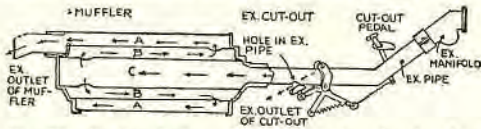

Fig. 69. Sectional view of a muffler also showing how a "cut-out" is placed on the exhaust pipe.
Construction: The muffler is usually made of iron pipe, like a stove pipe, with cast-iron heads, as in Fig. 69. The exhaust gases (when the exhaust valves are opened) pass through the exhaust pipe into the chamber (C), as shown by the arrow marks; then through openings in rear of (C), passing into chamber (B), then through openings in front of (B), into (A), then through (A) to the open air.
The exhaust cut-out is a device which can be placed on the exhaust pipe, between the engine and muffler (Fig. 69). It is arranged so that it can be opened by a foot pedal, thus permitting the exhaust gases to pass into the open air instead of the muffler.